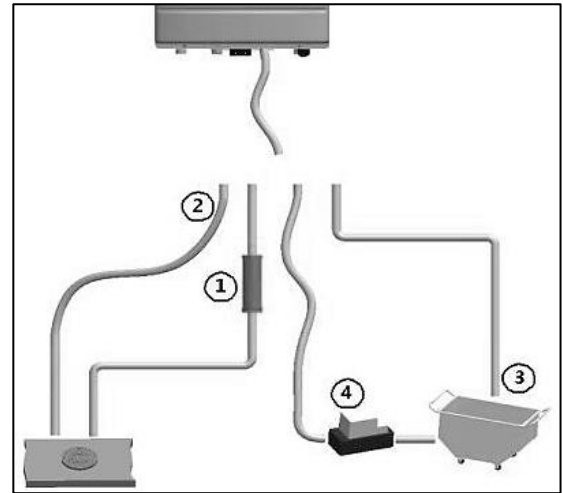

Figure 15 – Condensate Detail
4. A manual gas shut-off valve should be installed in the gas supply line close to the water heater. See Figure 15 for detail.